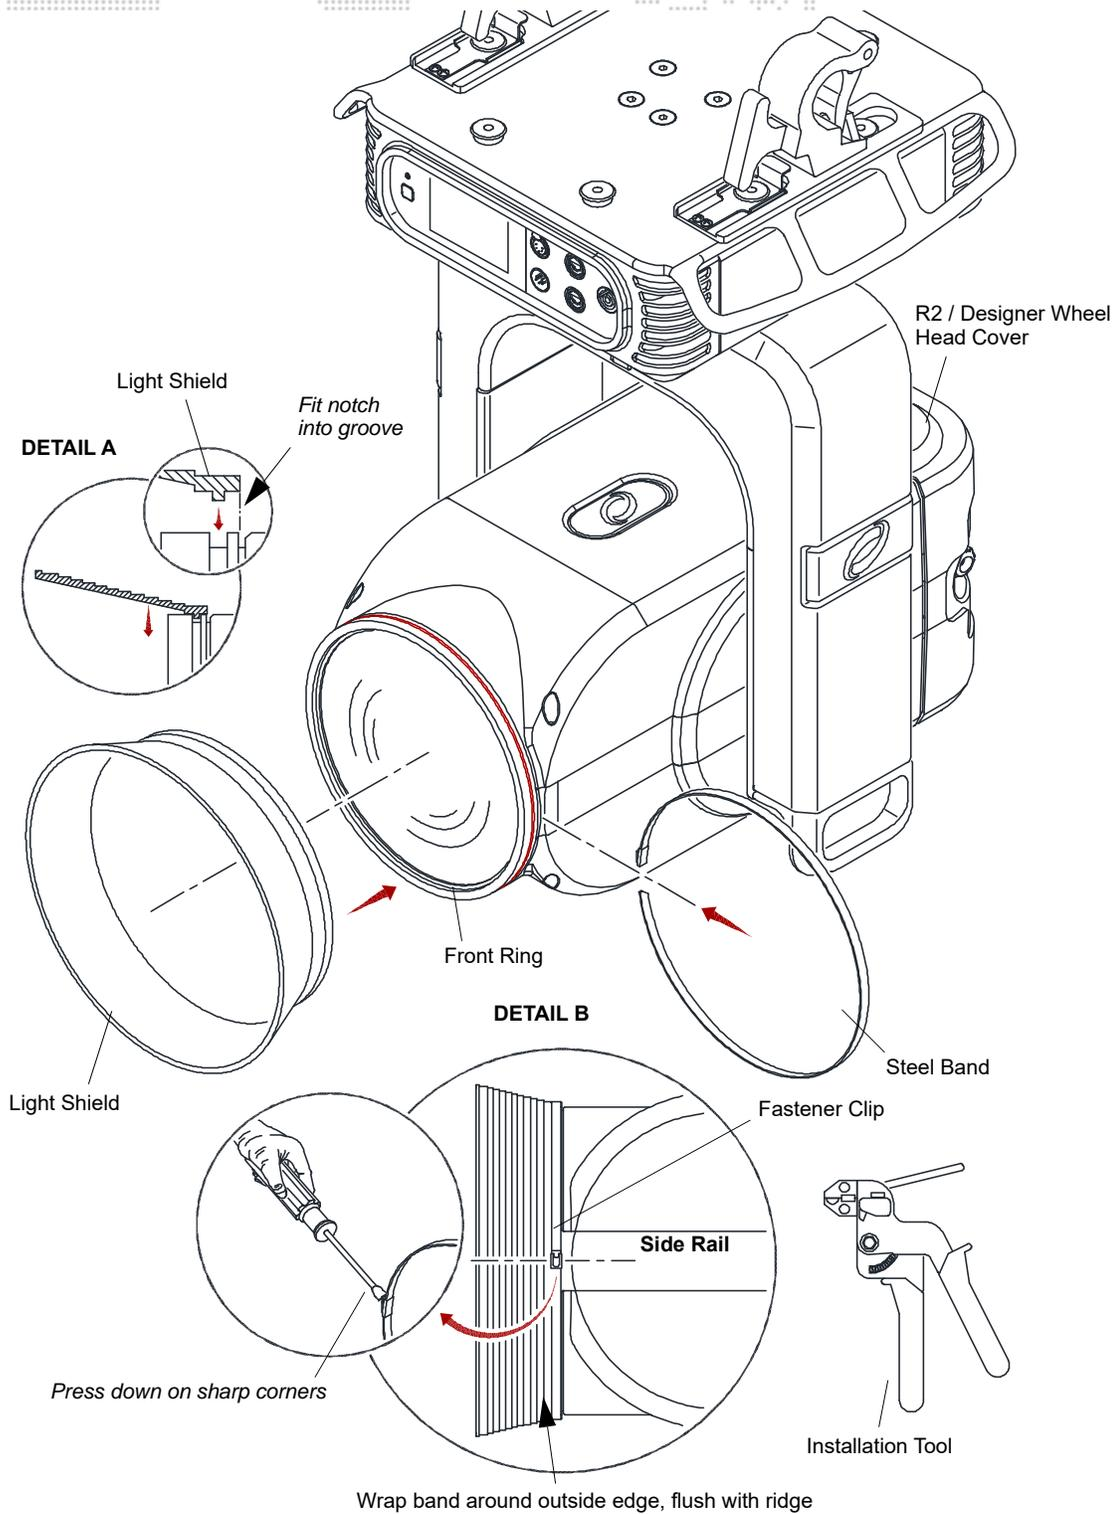

Figure 3-19: Installing Light Shield with Steel Band
- Step 4. Install new Light Shield over front ring (**Figure 3-19**). The notch around the edge of the Light Shield should fit into the groove of the front ring as shown in Detail A.